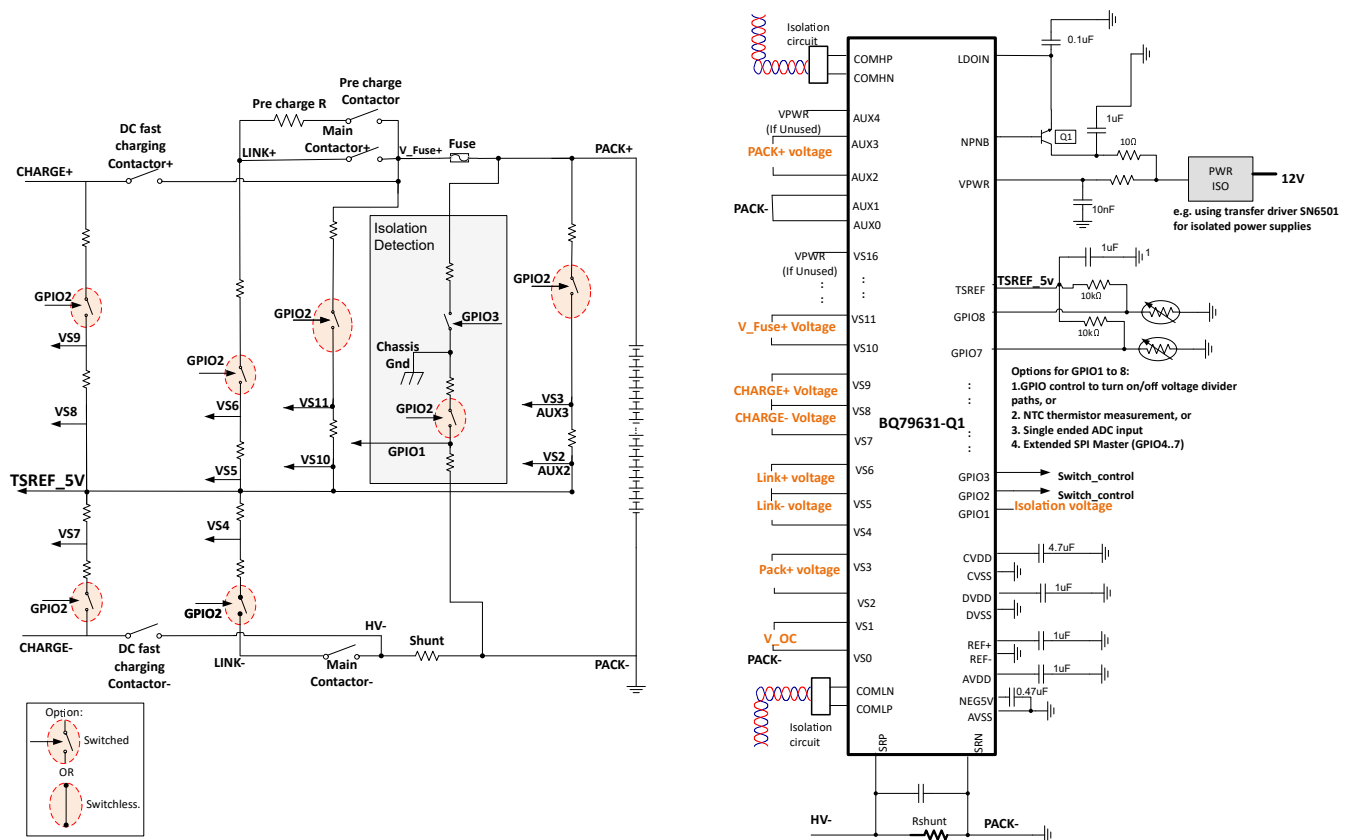

Figure 9-1. Typical BJB Application Circuit and Connections for Voltage (U), Current (I), and Insulation Resistance (R)
The following application circuit (see Figure 9-1) is based on the BQ79631-Q1 device operating in a BJB/BDU.
A typical BJB application circuit and connections for voltage (U), current (I), and insulation resistance (R) are shown in Figure 9-1.